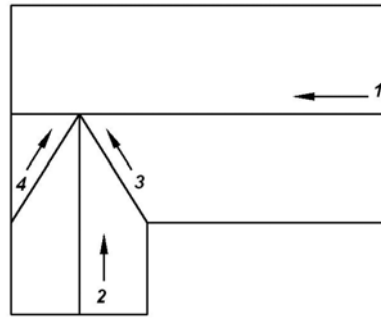

Figure 4-5
2. Ensure that  (Polar Tracking) is turned on. Start the **LINE** command again and draw a line from the midpoint on the right-hand side of the house (Point 1) to the point where it intersects the left-hand side, as shown in Figure 4-5. This shows the main roof ridge.